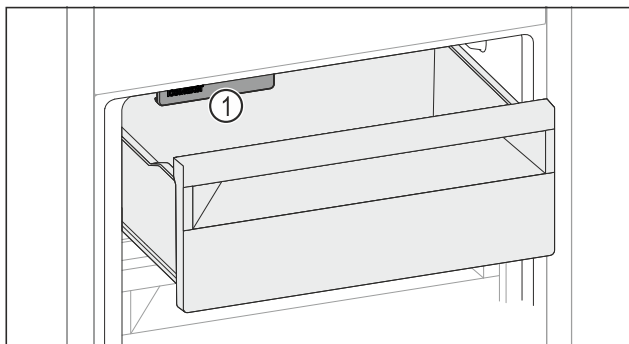

Fig. 217
- Watch out for the IceMaker Fig. 217 (1).